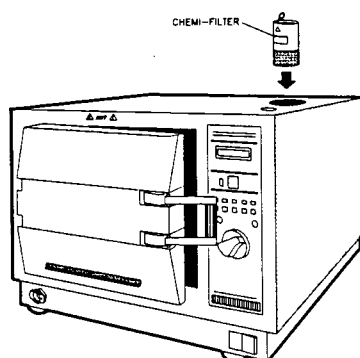

Figure 33: Replacing the Chemi-Filter
1. Be sure the power switch is OFF (see Figure 33).